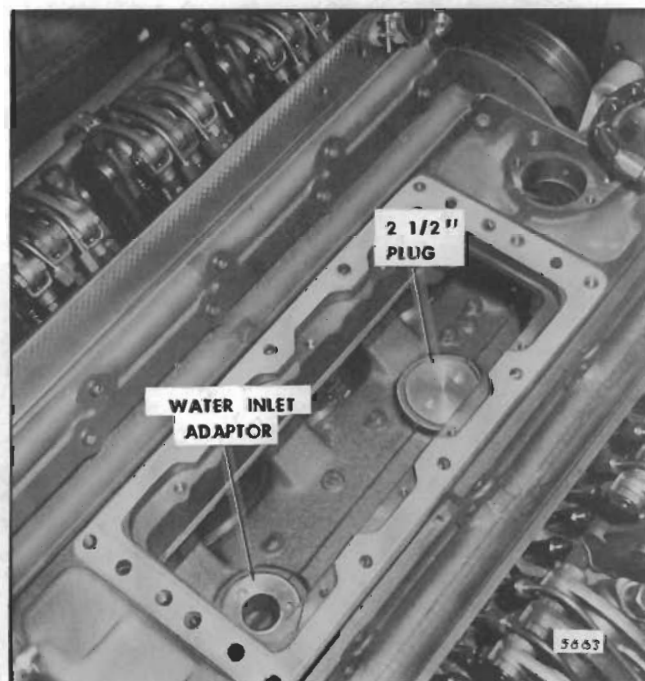

Fig. 3 - Location of Water Inlet Adaptor Plug in Cylinder Block
The top deck of the cylinder block has been revised to accept the aftercooler. A water inlet adaptor plug replaces the rear 2 1/2" core plug in the bottom of the cylinder block opening (Fig. 3) to supply water to the aftercooler. Tool J 25275 should be used to install or remove this adaptor plug.
2. Place the aftercooler, water outlet end first, into the cylinder block opening between the cylinders. The water inlet end of the cooler seats in the water inlet adaptor plug (Fig. 3). Install new 5/16"-18 x 9/16" attaching bolts with nylon locking patch (six - 6V-92, eight - 8V-92).